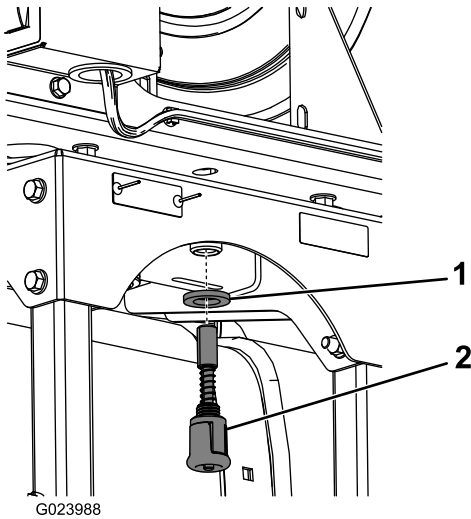

Figure 8
8. Install the large washer and spring pin to the underside of the hose-reel frame (Figure 8).